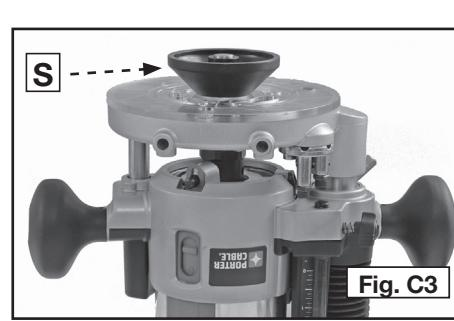

Fig. C3
4. Place the cone (S) Fig. C3 on the pin and lightly press down on the router until the cone stops inside the subbase. This will center the subbase.